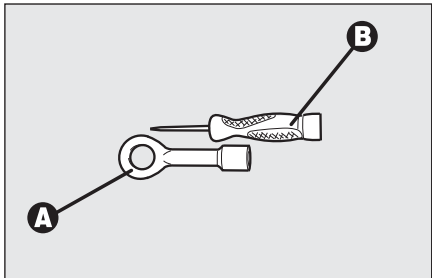
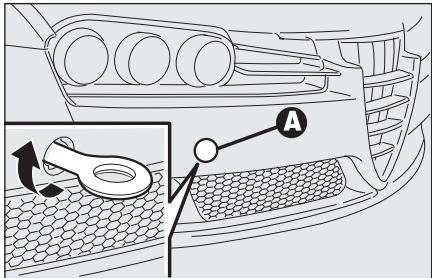

fig. 64
fig. 65
- ❑ take the tow hook **A-fig. 64** from the Fix&Go automatic container.
- ❑ remove the snap-fitted plug **A-fig. 65** from the front bumper. If using the flat blade screwdriver **B-fig. 64** provided as standard, protect its tip with a soft cloth to prevent damaging the car.